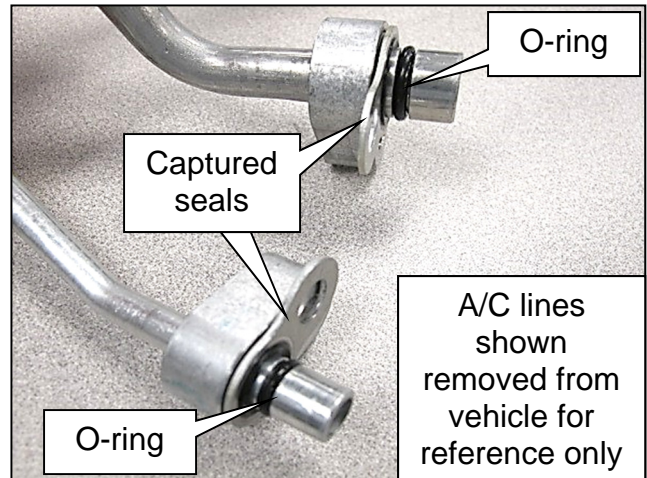

Figure 22
- b. Install new O-rings and captured seals onto the high pressure pipe and the high pressure flex-hose connections (Figure 22).